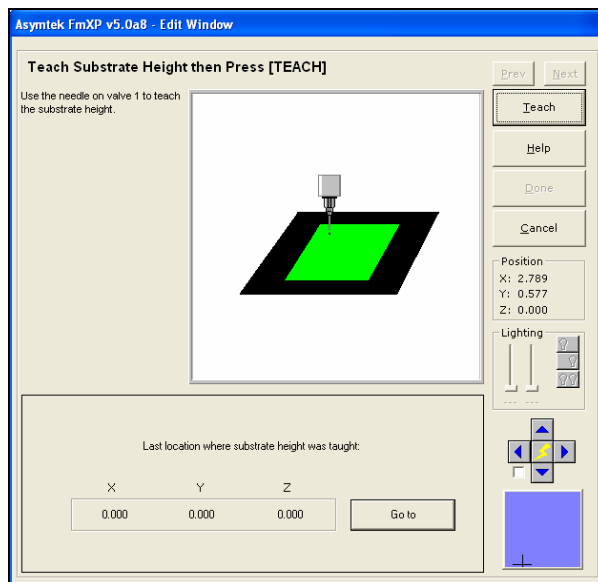

Figure 3-5 Teach Substrate Height
- ▶ A Teach Window opens asking you to “Teach Substrate Height.” See Figure 3-5.